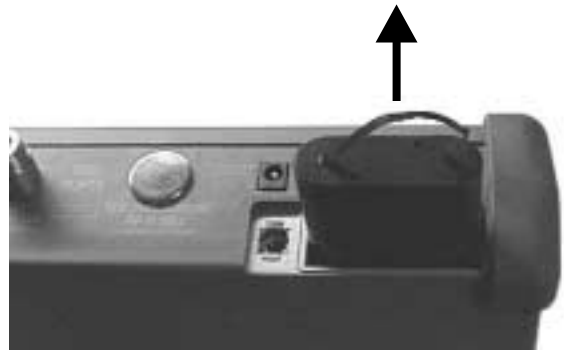

Figure 10. Removing the Battery
4. Grasp the battery lanyard and pull the battery straight up and out of the unit, as illustrated in Figure 10.